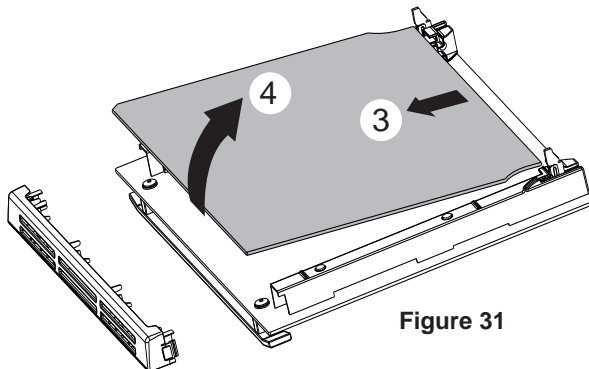

Figure 31
- Gently lift and pull out the inner pane of glass by releasing it from the bottom retainers. Do not angle the pane too much as you may damage the glass (fig. 31).